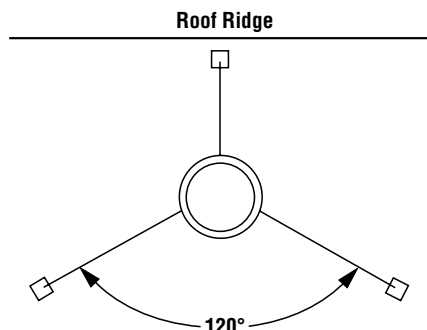

**Figure 30**
**Step 8.** The standard Security Chimneys™ FTF10 roof flashing assemblies include a storm collar. Slide the storm collar over outer chimney, rest on flashing spacers and align with top surface of flashing. Insert tab in slot, pull tight and bend tab back over slot. Seal storm collar to outer chimney with roof caulking or mastic around entire circumference of pipe. Also add extra roof caulking to the tab/slot area to seal completely against water penetration (**Figure 30**). Check all joints very carefully to ensure no water intrusion can take place.
Use the nut provided and TIGHTEN snugly. Do not overtighten as this might damage the chimney section (*refer to Figure 30*).